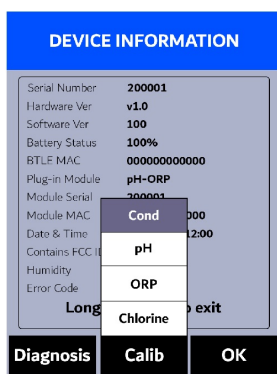

Figure 21.
3. Press **Cal/Sys (OK)** to launch the **DEVICE INFORMATION** screen.
4. Press **Calib (>)** as needed to highlight **Cond** (conductivity) calibration in the selection menu (Figure 21).